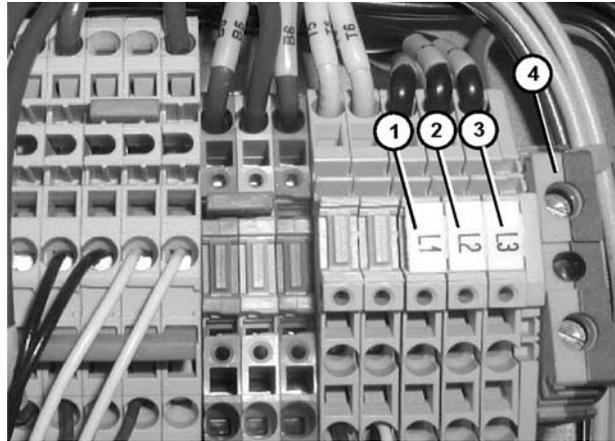

Figure 15
1. Make the input power connections through the line connection cord grip. Refer to (Figure 15) for terminations inside the VFD controller. L1 = item 1, L2 = item 2, L3 = item 3 and Ground = item 4.